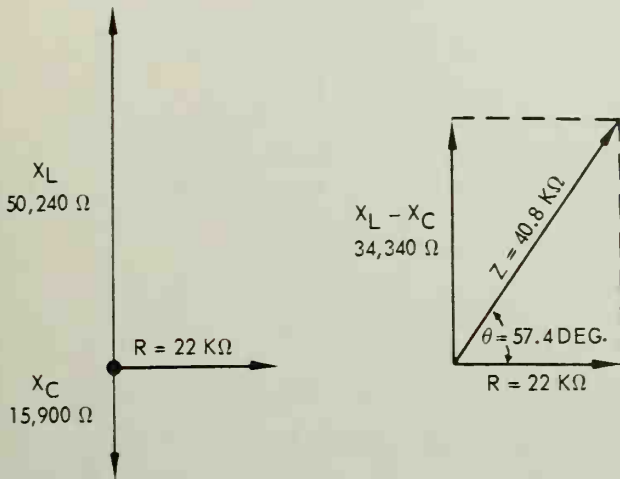

Fig. 10-2. The vector diagram used in the text problem.
2. In Fig. 10-2, these vectors are drawn: